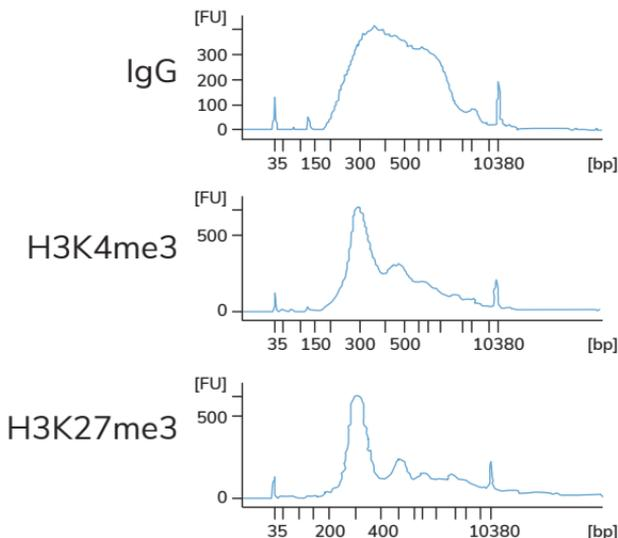

FIGURE 6
57. The final Bioanalyzer® trace should show predominant enrichment of mononucleosomes yielded by the H3K4me3 Positive Control Antibody (~150 bp + sequence adapter length, Figure 6).
- Fragment size distribution analysis after library preparation (e.g. Agilent Bioanalyzer® or Tapestation® traces) should show enrichment of mononucleosomal fragments (~275 bp = ~150 bp nucleosome + 125 bp adapters, Figure 6).